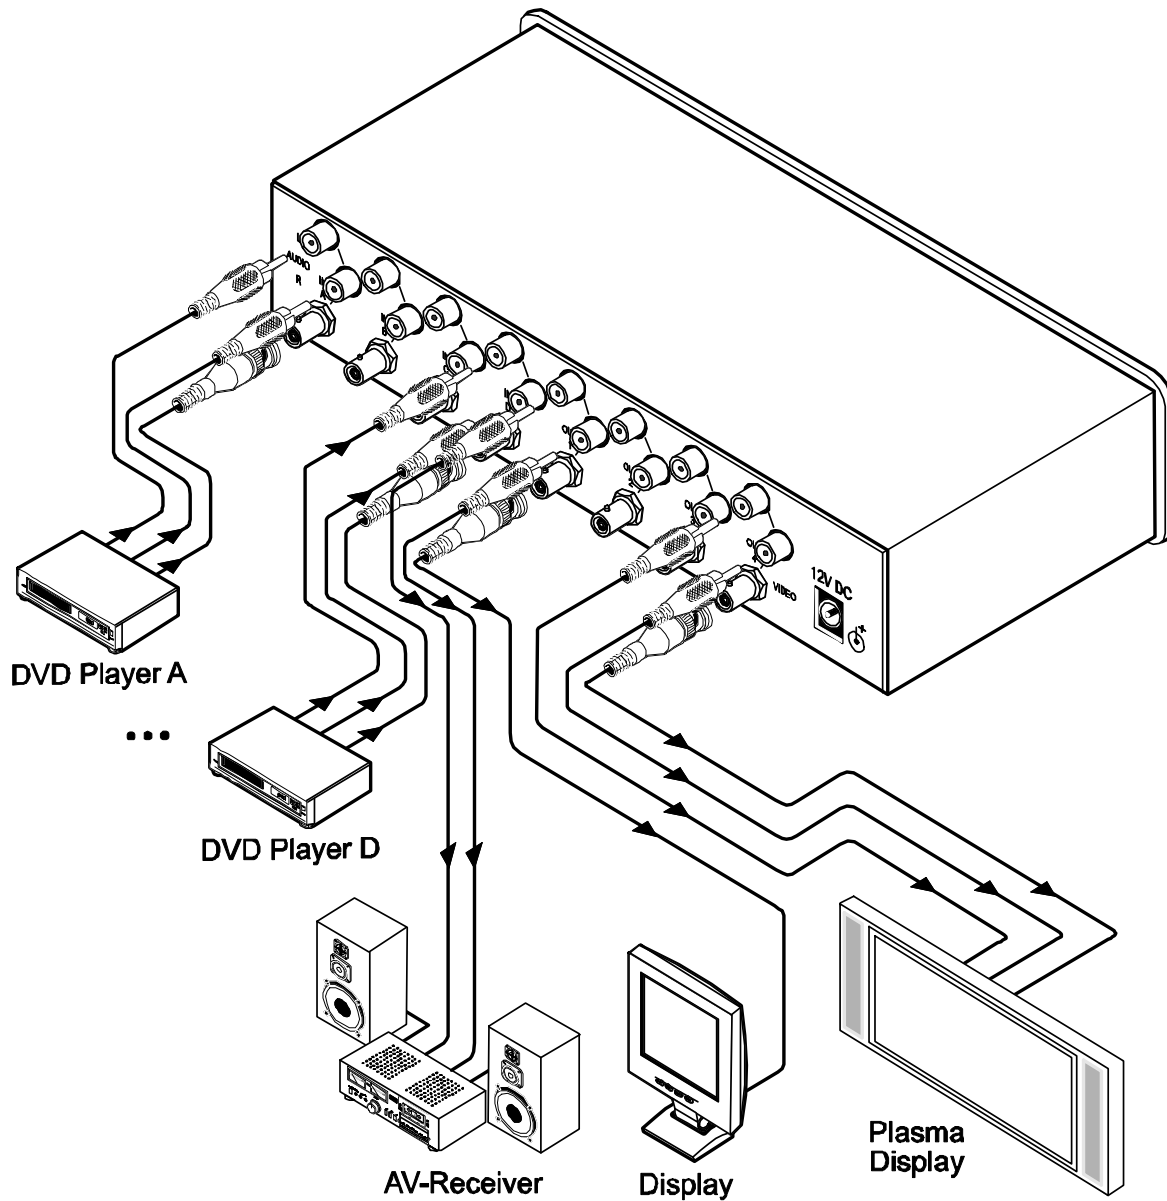

Figure 2: VS-6EIII 4x4 Video Audio Matrix Switcher Connections
To connect¹ the **VS-6EIII 4x4 Video Audio Matrix Switcher**, as illustrated in the example in Figure 2, do the following²:
3. Connect the 12V DC power adapter to the power socket and connect the adapter to the mains electricity (not shown in Figure 2).